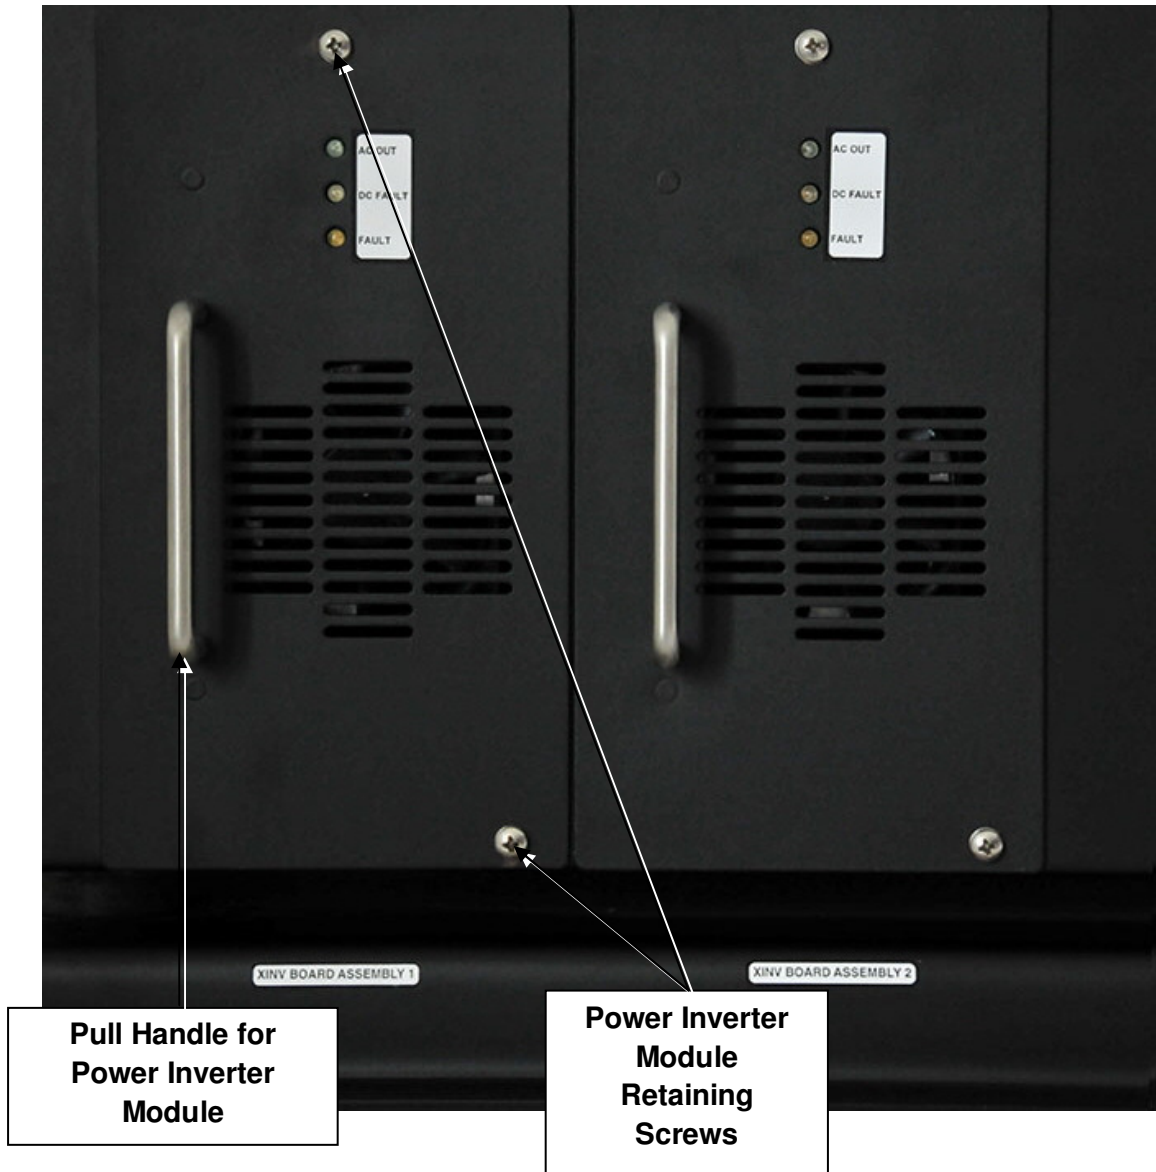

Figure 14: Front Access Power Module Panels
- Next loosen the screws at the top cover and remove, and front panel retaining screws of the Power Inverter Module, see Figure 14.
- Next connect all the wires/connectors previously disconnected as shown in Figure 14 and 15. Once all the wires/connectors have been connected, slide the Power Module back into the compartment, making sure that it is retained in the guide rail groove and the rear of the bracket is seated on the guide pin in the rear of the housing. Also look to make sure that no wires/cables are kinked or pinched.
- Once this has been determined, fasten the front panel to the housing with the two (2) screws and lockwashers previously removed.